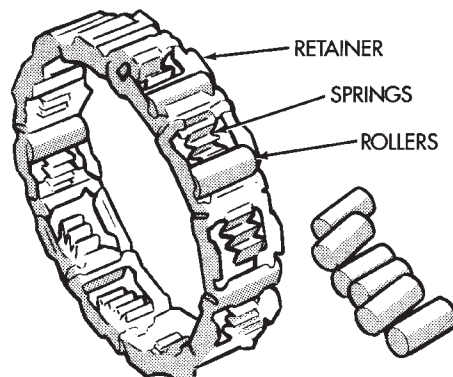

Fig. 33 Installing Overrunning Clutch Rollers In Retainer (42RH)
(1) Install clutch rollers in spring retainer (Fig. 33). Be sure springs are seated squarely against rollers.